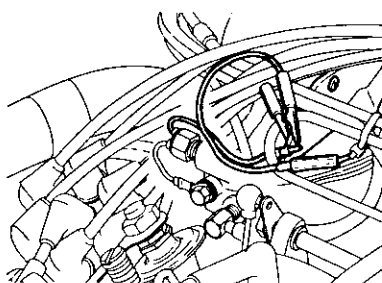

Fig. EE-65 Short-circuit of advance control relay
2. Ground engine harness red wire to engine body with a suitable lead wire. See Figure EE-65.